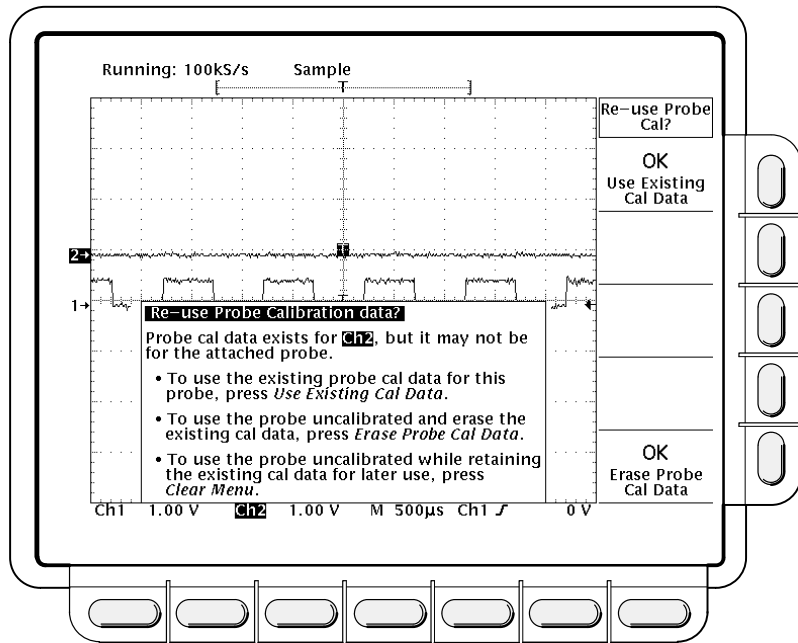

Figure 3-40: Re-use Probe Calibration Data Menu
- If a probe has a simple oscilloscope interface and the probe attenuation factor is the same as was stored at the last Probe Cal, the oscilloscope cannot determine whether it is the same probe. Therefore, it displays the *Re-use Probe Calibration data?* menu (see Figure 3-40).